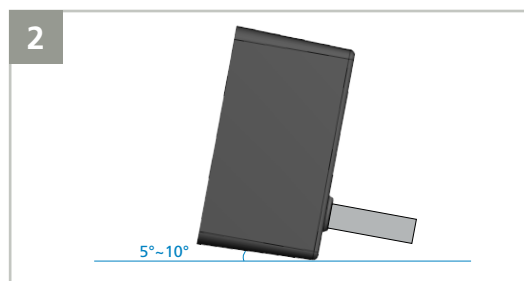

Figure 2.
- In order to guarantee a stable and reliable detection field, ensure the handrail cover is void of any complex structures like honeycomb. Flat surface has optimal radar performance. (Figure 2)